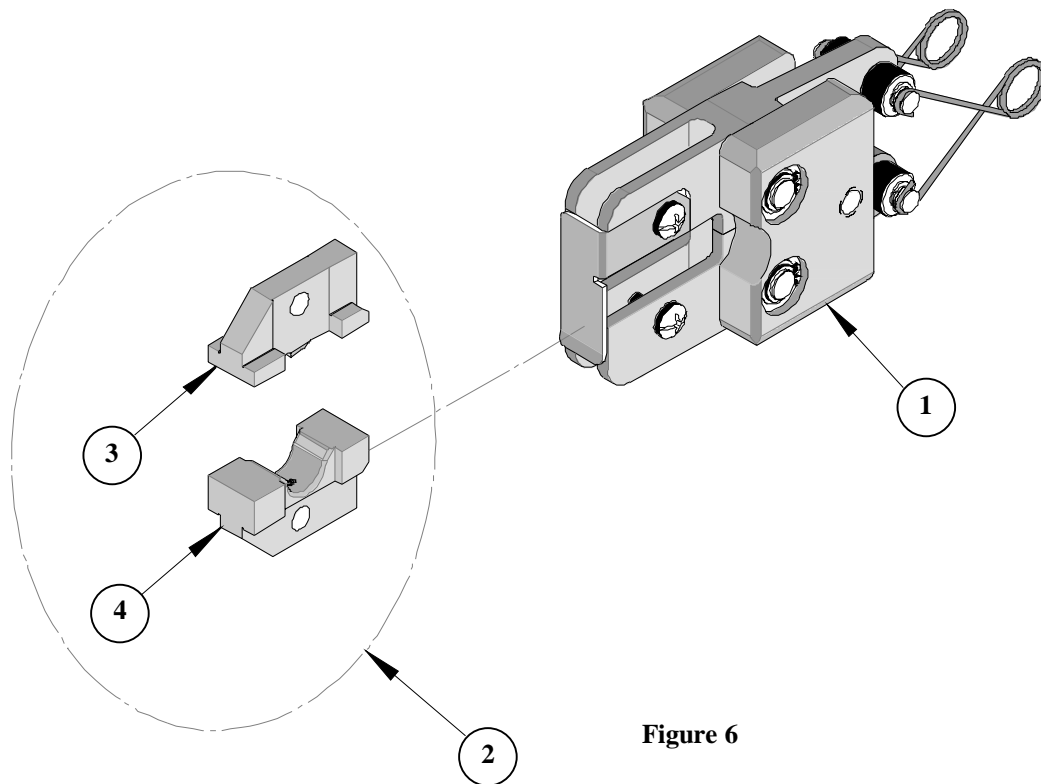

Figure 6
3. Make certain all pins, pivot points and bearing surfaces are protected with a thin coat of high quality machine oil. Do not oil excessively. The 64007-4300 (AT-1060) was engineered for durability, but like any fine piece of equipment it needs cleaning and lubrication for a maximum service life of trouble-free crimping. A light oil, such as 30 weight automotive oil used at the oil points shown in Figure 6, every 5,000 crimps or monthly will significantly enhance the tool life and ensure a stable calibration.